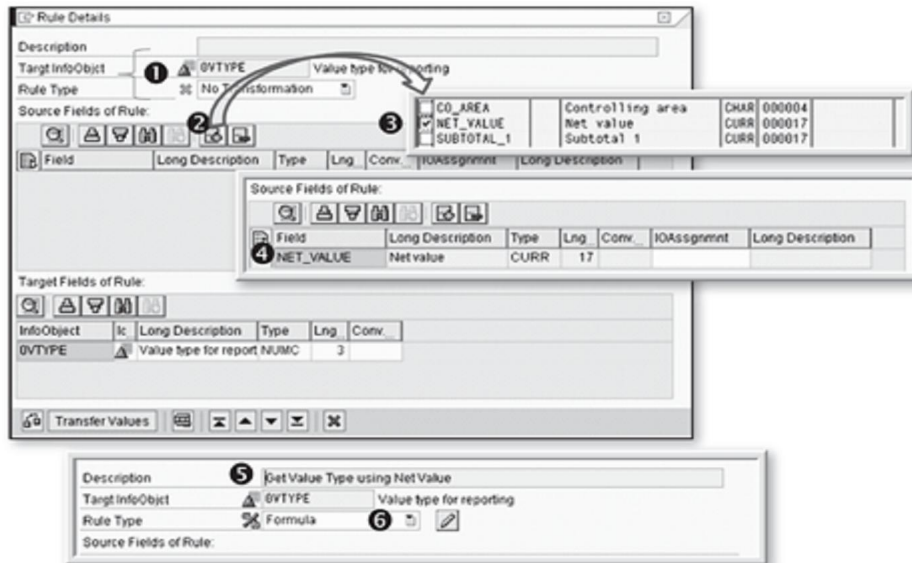

Figure 7.62 Selecting the Formula Transformation Type
Select the target object OVTYPE (❶ of Figure 7.61) in the transformation screen, and double-click it to open the Rule Details screen (alternatively, you can open the context menu). The rule details for OVTYPE are shown in Figure 7.62.
To use the Net Value field to derive the value of OVTYPE, you must add the field under Source Fields of Rule. To do this, click on the icon shown in ❷ of Figure 7.62. This results in ❸. Select NET_VALUE, and click on the Continue icon. NET_VALUE is now available under Source Fields of Rule (❹).